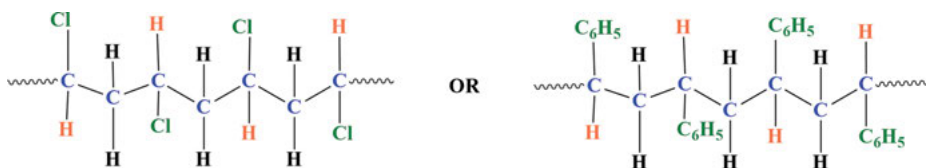

Figure 6.12: Syndiotactic polymers.
**6.8.2** Syndiotactic: Substituents or side groups (chloride atoms or phenyl groups) are on the alternating sides of the backbone (Figure 6.12).